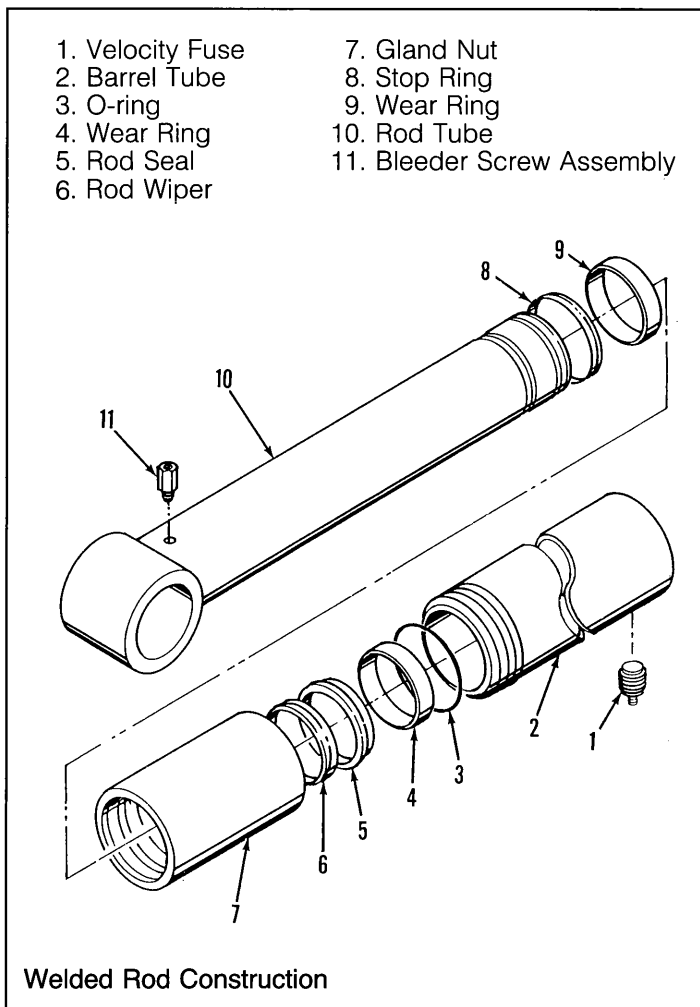

Figure 5-15. Lift Cylinder Disassembly
- (1) Block sissors linkage as per paragraph 5-5.
- (2) Remove snap rings from cylinder pin.
- (3) Remove cylinder pin and spacers from cylinder and plates.
- (4) Provide a suitable container to catch the draining hydraulic fluid, then disconnect the hydraulic hose and fitting from the base of the cylinder. Immediately plug hose to prevent foreign material from entering.
- (5) Attach a suitable hoisting device and sling to the top of the cylinder.
- (6) Lift cylinder from collar.
- (7) Move cylinder to a prepared work area.
b. Disassembly, For Welded Rod Construction (Figure 5-15).
- (1) Unscrew gland nut and withdraw the rod tube from the barrel tube.
- (2) Remove the stop ring and wear ring from the rod tube.
- (3) Remove the gland nut from the rod tube.
- (4) Remove the bleeder screw assembly.
(5) Remove the O-ring, wear ring, rod seal, and rod wiper from the gland nut and discard.
(6) Remove the velocity fuse from the barrel tube.
c. **Cleaning and Inspection** (Figure 5-15).
- (1) Clean all the metal parts in cleaning solvent and blow dry with filtered compressed air.
- (2) Check the mating surfaces of the mount tube, barrel tube and rod tube for excessive wear or scoring.
- (3) Replace all parts found unserviceable.
- (4) Replace all seals and O-rings.
d. **Reassembly, For Welded Rod Construction** (Figure 5-15).
(1) Lubricate and install the rod seal, wear ring, rod wiper and O-ring in the gland nut.
- (5) Operate the hydraulic lift circuit with the bleeder screw (Figure 5-15) loose to allow trapped air to escape the lift cylinder. Once hydraulic fluid flows continuously from bleed port, tighten the bleeder screw. Check for leaks.
- (6) Test with weight at the rated platform load to check system operation.